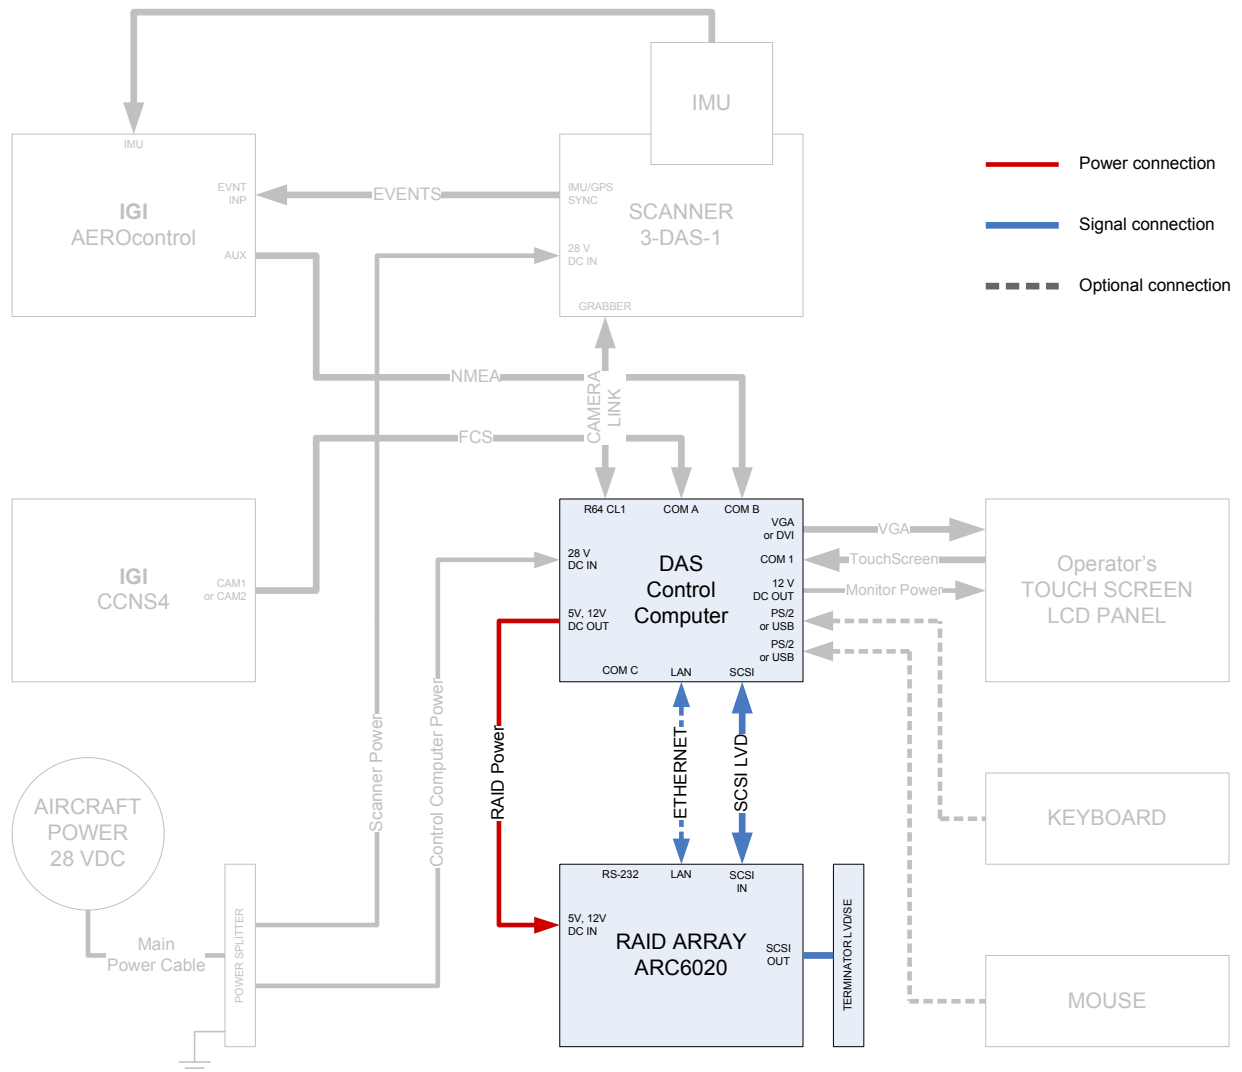

Figure 1.12: RAID-array connection.
- Connect “5V, 12V DC IN” input of RAID-array with “5V, 12V DC OUT” connector of control computer. (Figure 1.12)